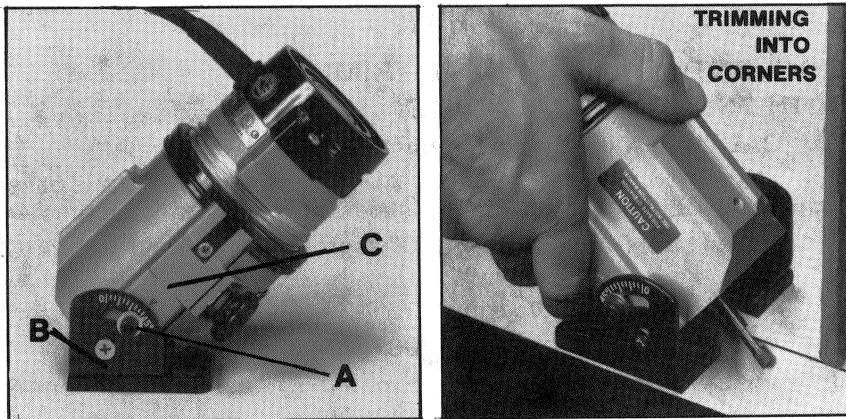

Fig. 4
2. Loosen two tilt locking screws (A) Fig. 4 (one on each side of base) using the 5/32" Allen wrench furnished with your Laminate Trimmer.
3. Adjust base (B) Fig. 4, to align "45" degree mark with index mark (C) Fig. 4.
4. Tighten the two tilt locking screws (A) Fig. 4.